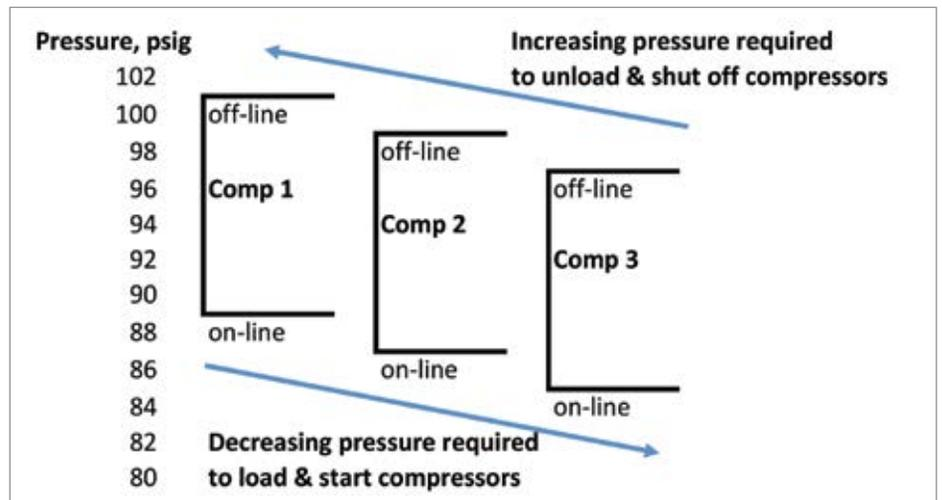

Figure 3. Cascade Algorithm
1. Cascade algorithm. I covered this in the introduction. This works fine for all load-unload air compressors, but should be avoided for systems with a VFD air compressor. Your VFD will be off or running at full speed much of the time. The last air compressor on is the trim air compressor, and they are rotated. See Figure 3. In the illustration, the pressure range for three compressors is 16 psig, from 84 to 100 psig. The cascade algorithm is the old standard for sequencers, so ask your supplier how their “sequencer” works before you purchase one for use with a VFD air compressor.